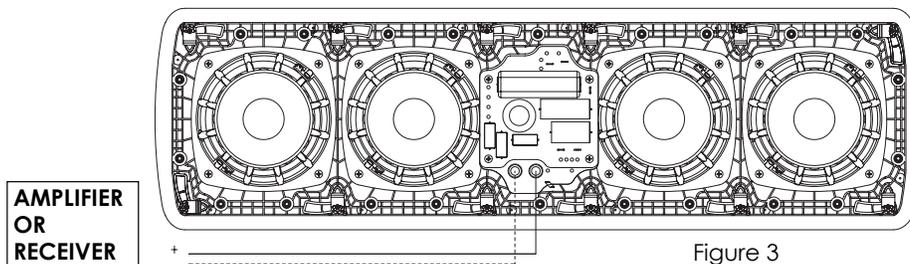

Figure 3
- Hold the speaker up to the cutout and connect the speaker cable. Proper polarity (or phase) is critical for proper stereo imaging and bass performance. Connect the red(+) terminal of your receiver or amplifier to the red(+) terminal of the Invisia loudspeaker and the black(-) terminal of your receiver or amplifier to the black(-) terminal of the Invisia loudspeaker (See Figure 3). Most speaker cables are either color coded or have some indicator (ribbing or writing) on one of the conductors to help maintain this consistent polarity. It is essential that all speakers be connected in the same way (in phase) to its own channel of the amplifier. If you experience a great lack of bass, it is likely that one speaker is out of phase (+ and - reversed) with the other.